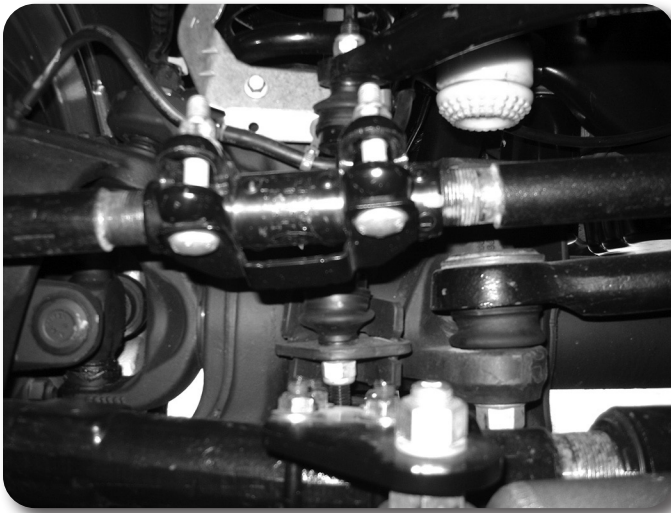
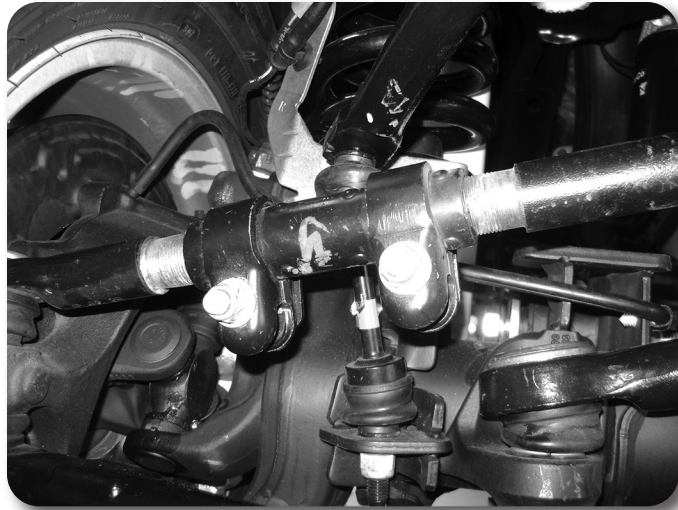

Figure 19A \*Incorrect\*
Figure 19B \*Correct\*
4. Adjust steering wheel with adjustment on the draglink, do NOT drive the vehicle with the steering wheel off-center or adverse traction control affects may arise. Rotate the clamps once the steering wheel is straight as shown. (Figure 19A - incorrect, clamps will interfere with sway bar, Figure 19B - correct clearance). Torque clamps to 41 ft-lbs. Thread the collar to lengthen the drag link.